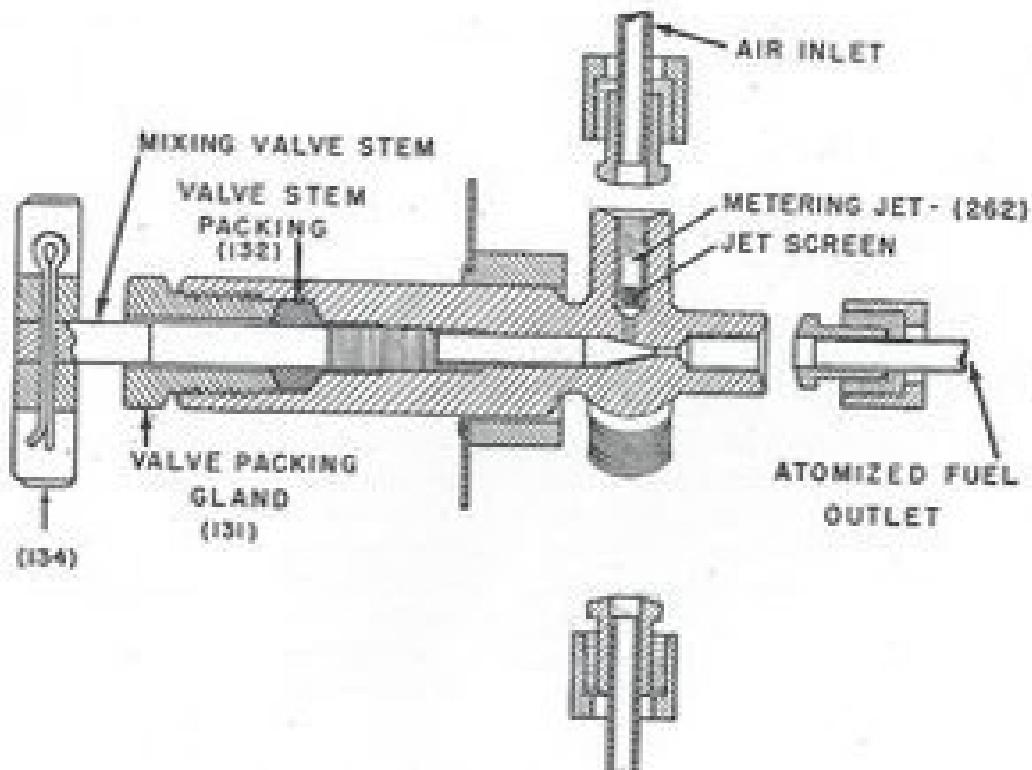

Figure 12. Mixture (air) valve (cutaway view).
(6) Replace the packing if it will not stop leakage when it is tightened. The packing may be removed by inserting a screw driver into the valve stem hole and turning the screw driver counter-clockwise.
(7) Replace worn or damaged parts and assemble in reverse order of disassembly.
a. GENERAL. The mixture valve (fig. 12) is a valve at the upper left-hand corner of the burner front panel. It is used to provide a mixture of air and gasoline from the tanks to the flame valve during the process of starting the burner. The fuel inlet side of the valve contains a metering jet (Part No. 262) which limits the flow of fuel when the valve is opened.
b. REMOVAL. (1) Relieve the pressure in the tank by opening the fuel tank filler cap.
(2) Remove the valve knob (Part No. 134) by pulling out the cotter pin.
(3) Unscrew the packing gland (Part No. 131).
(4) Disconnect the three tubes from the body of the valve. When removing the fuel inlet tube, be careful not to lose or damage the metering jet screen.
(5) Remove the setscrew which holds the body